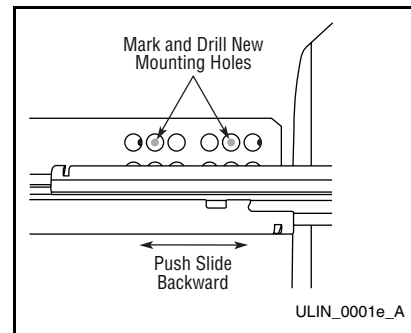

Figure 19
3. Mark new drilling holes using different sets of mounting holes on the slide. See **Figure 19**.